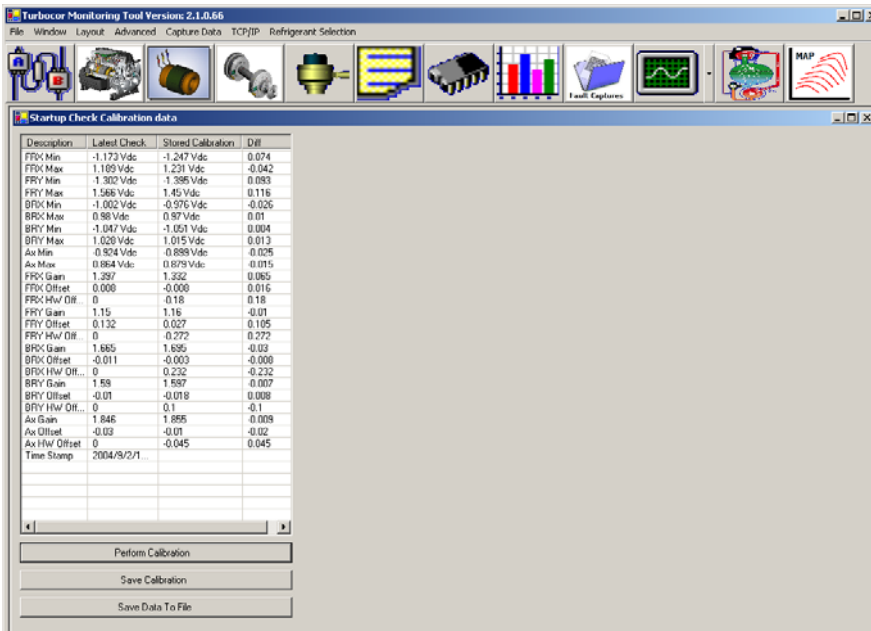

Figure 20 Bearing Calibration Window
5. From the menu bar, select "Advanced" → "Bearing Calibration". The "Startup Check Calibration Data" window appears, as shown in Figure 20.